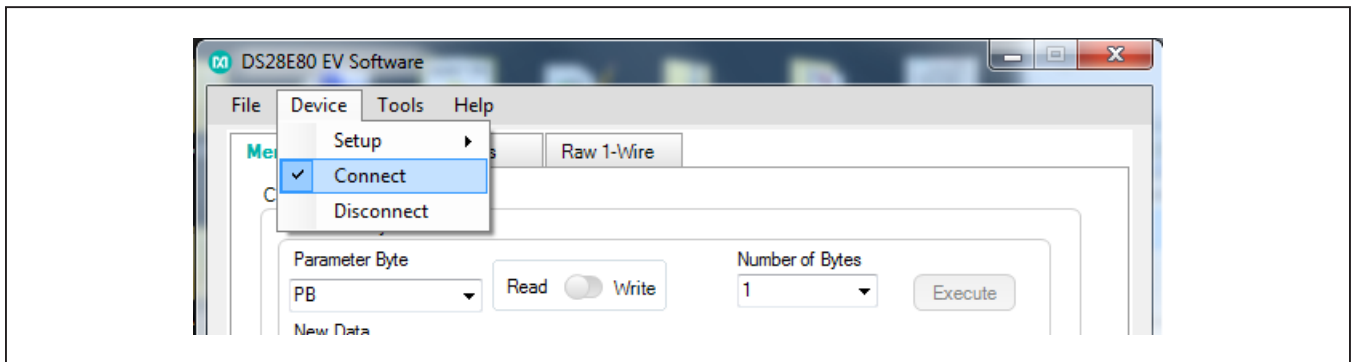

Figure 5. Connect
- a) The **Connect** feature can also be used to refresh the connection settings. This is helpful for the user if a new device is attached to the DS9120 adapter. The software needs to reconfigure the number of devices in the network and be ready to work with the new device. Clicking the **Connect** option refreshes the selections (Figure 5).